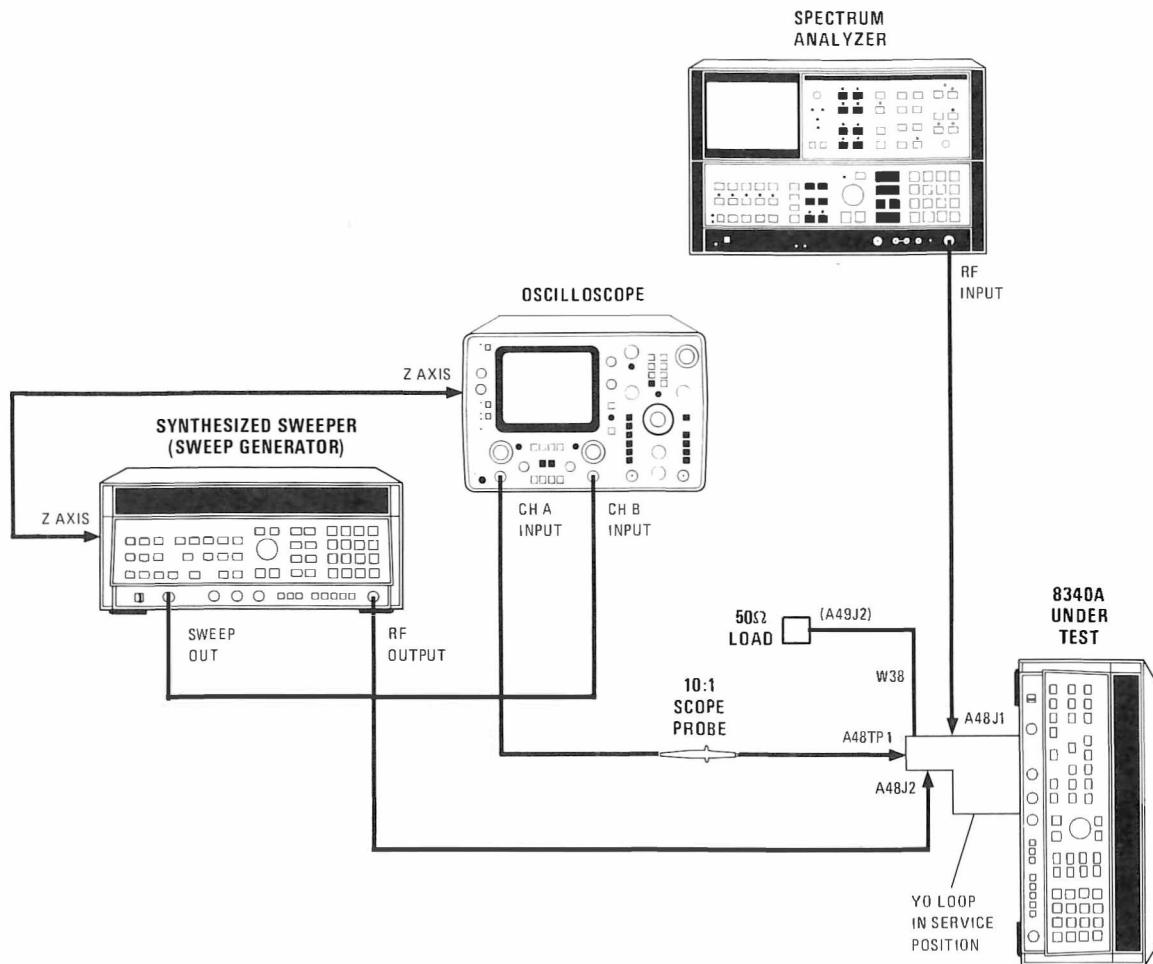

Figure 5-18. YO Loop Adjustment Setup
2. Connect equipment as shown in Figure 5-18 except do not connect the Spectrum Analyzer. Set LINE to ON and allow 1/2 hour warmup.